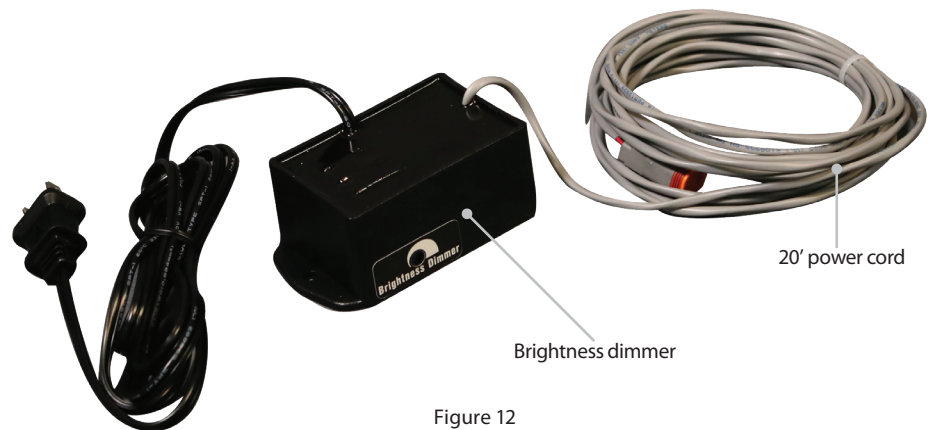

Figure 12
- D.1** Insert a small flathead screwdriver into the brightness dimmer and rotate it to adjust the sign’s LED brightness. See Figure 12.
Low Brightness	Adjust the brightness dimmer (see Figure 12).